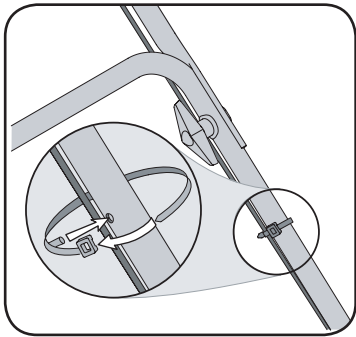

Figure 3-5
5. Insert post on cable tie into hole provided on the lower handle. Pull cable tie tight and trim excess. See Figure 3-5.